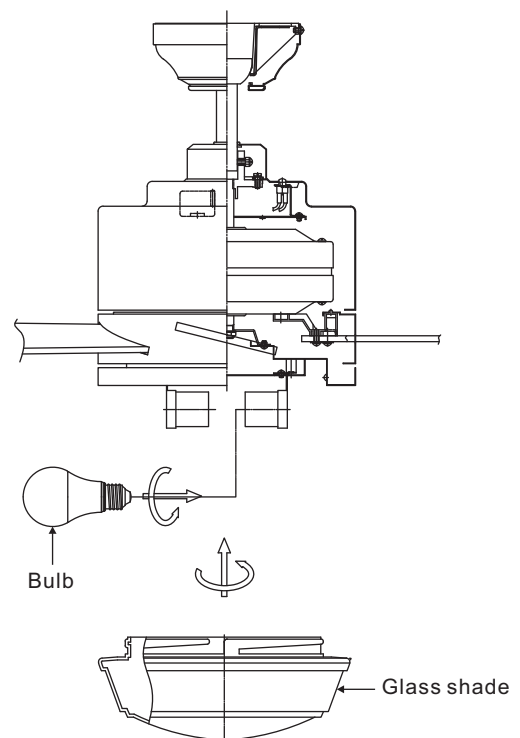

Figure 20
2. Raise glass shade up against the mounting plate and secure it to fan by turning glass clockwise until snug. **Do not overtighten.** (Fig. 20) **WARNING:** The metal light cover included with your fan is an option to replace the glass for the light in the event that you prefer not to use the light feature of your fan. The metal light cover is not necessary for the light operation; it can be saved for later use if desired.